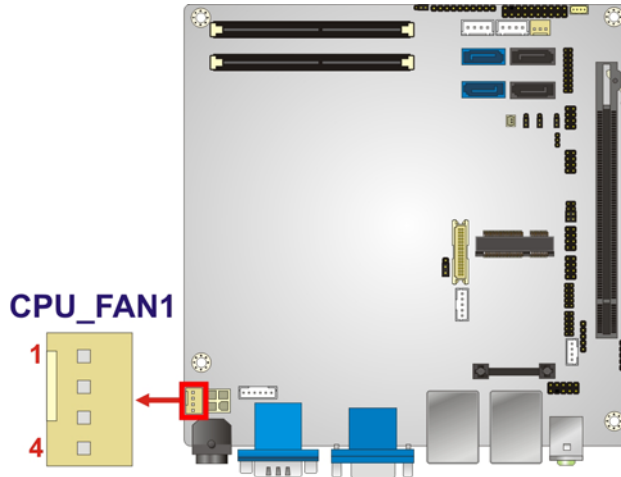

Figure 3-7: CPU Fan Connector Location
- CN Location:** See **Figure 3-7**